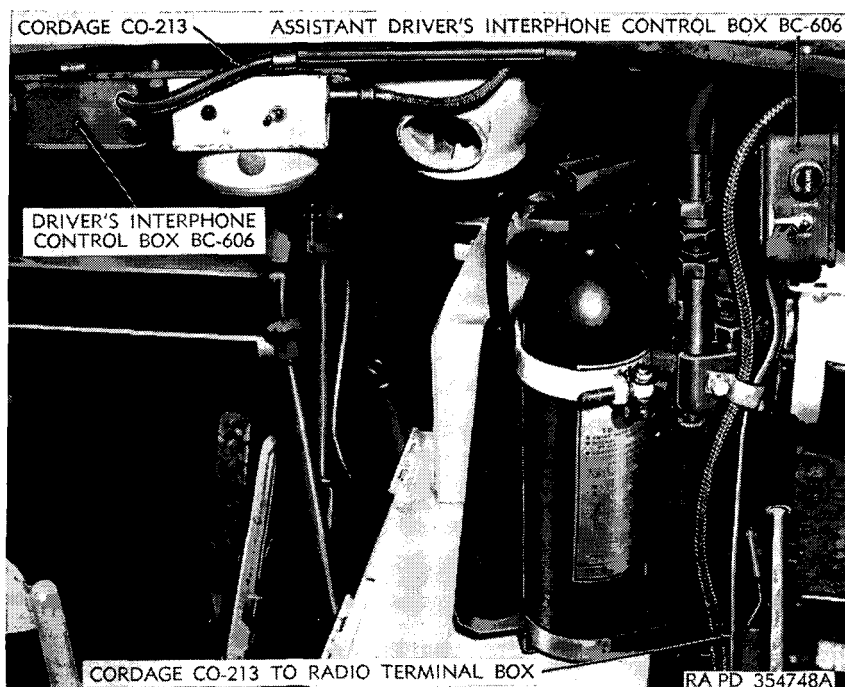

Figure 209. Interphone control units in driver's compartment.
- (1) *Receiver BC-603, or BC-683-BM.* Loosen the two knurled thumb screws until they are free and can be pushed below the receiver. Grasp the handle located below the tuning controls and pull the receiver away from the mounting FT-237.
- (2) *Transmitter BC-604 or BC-684-BM.* Unscrew the two knurled thumb screws in the end of the transmitter which secure the transmitter to the mounting base plate. These are captive screws and are not removed from the transmitter. Grasp the transmitter and withdraw it away from the end of the mounting.
- (3) *Mounting FT-237, interphone control boxes, interphone cordage, and power cable.*
- (a) Turn master battery switch off (fig. 209).
- (1) Assemble headsets and microphones with their extension cords. Insert the plugs on cords into jacks on interphone control boxes BC-606 (fig. 209). Turn the volume control on each box to maximum, then turn the control back slightly from maximum.
- (2) Turn the "RADIO-INT" switch on radio transmitter BC-604 to the "RADIO" position. Turn the "OFF-ON" switch on the front panel of radio transmitter BC-604 and radio receiver BC-603 to the "ON" position. Turn the "RADIO & INT-INT ONLY" switch on radio receiver BC-603 to "RADIO & INT." Tune to a strong signal from another radio set located in the vicinity. Adjust the volume of the
a. GENERAL. Interphone extension kit RC-298 is installed on each tank to permit communication with ground troops outside the tank. This kit consists of external interphone box BC-1362 (fig. 209) and switch box BC-1361 (fig. 6) interconnected with cordage CO-213 encased in flexible conduit. The switch box is mounted at the rear of the